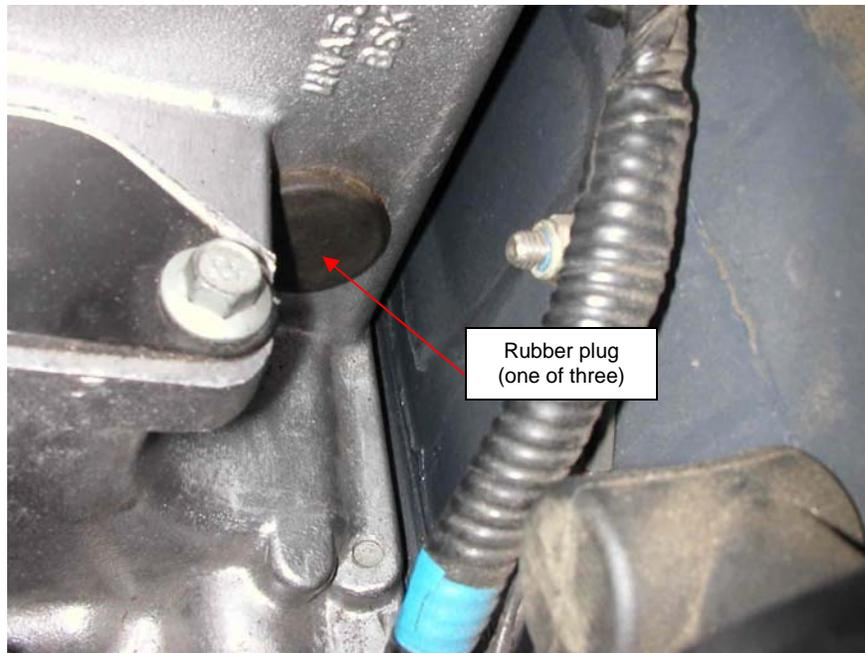

Fig. 18
19. Set the pedal assembly on a work bench. Remove the three rubber plugs from the tower (Fig. 18).